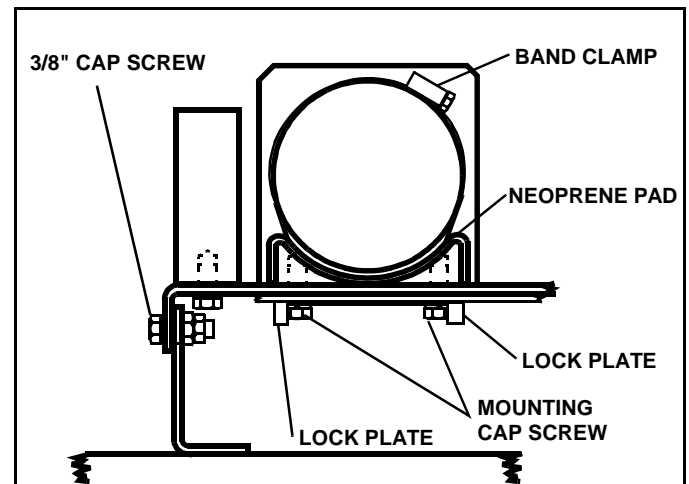

Figure 2-5
16. Position the Hydraulic control unit on the frame. Apply Locktite™ 262 (Red) on the two (2) 3/8" mounting cap screws and insert through Lock Plate, frame and into endhead. Torque cap screws to 30-32 lb-ft.
**IMPORTANT:** After Cap Screw have been torqued bend end of Lock Plate over tight against two flats of each Cap Screw head. (See Figure 2-5)
*NOTE: make sure Neoprene Pad is located between power unit and mount. (See Figure 2-5)*